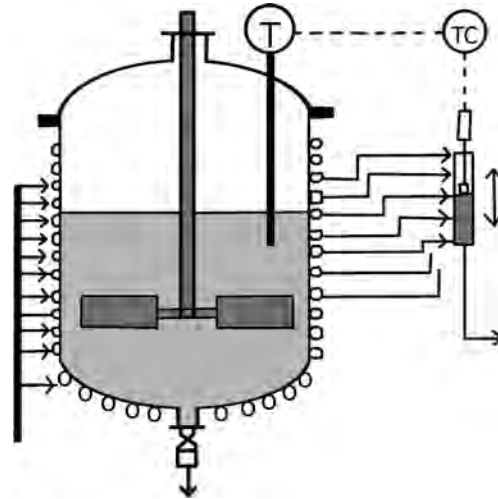

FIGURE 12.16 Constant flux heat transfer jacket.
- Figure 12.16 illustrates constant flux heat transfer jacket.